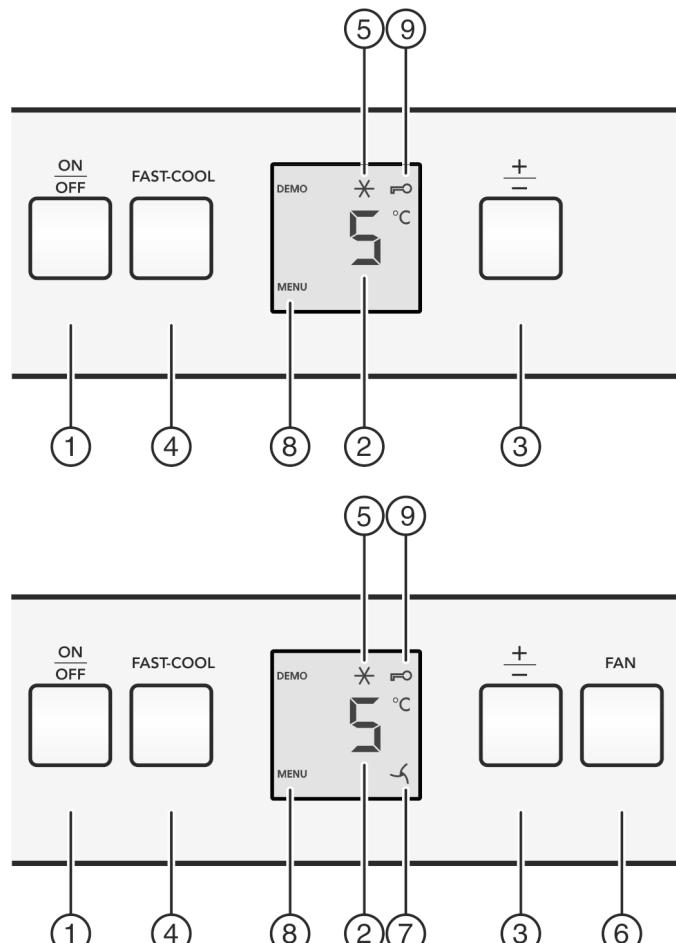

Fig. 2
- Press the On/Off button *Fig. 2 (1)*.
- Press the Fast Cool button *Fig. 2 (4)* for approx. 5 seconds.
- The Menu symbol is shown on the display, *Fig. 2 (8)*.
- Briefly confirm using the Fast Cool button *Fig. 2 (4)*.
- The child lock symbol, *Fig. 2 (9)*, lights up on the display.
- Briefly press the On/Off button *Fig. 2 (1)*.
- Call up the temperature function: Press the "+/-" setting button *Fig. 2 (3)*.
- Change the temperature in 1 °C steps: Press the "+/-" setting button *Fig. 2 (3)* until the required temperature is indicated in the temperature display.
- Briefly press the Fast Cool button *Fig. 2 (4)*.
- The Fast Cool symbol *Fig. 2 (5)* illuminates in the display.
- ▶ Briefly press the Fast Cool button Fig. 2 (4).
- ▷ The Fast Cool symbol Fig. 2 (5) goes out in the display.
- ▶ Briefly press the fan button Fig. 2 (6).
- ▷ The fan symbol Fig. 2 (7) illuminates.